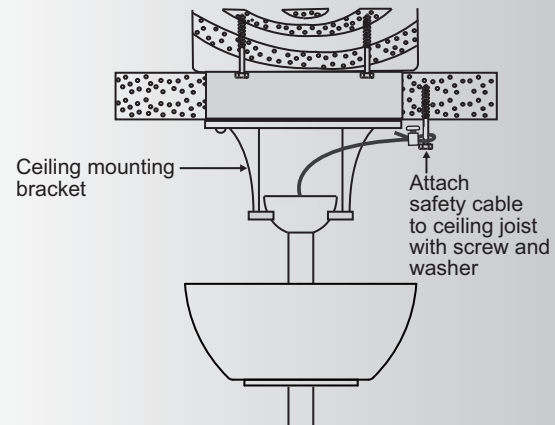

Fig. 11
Step 1. Attach the provided wood screw and washers to the ceiling joist next to the mounting bracket but do not tighten. (Fig. 11)